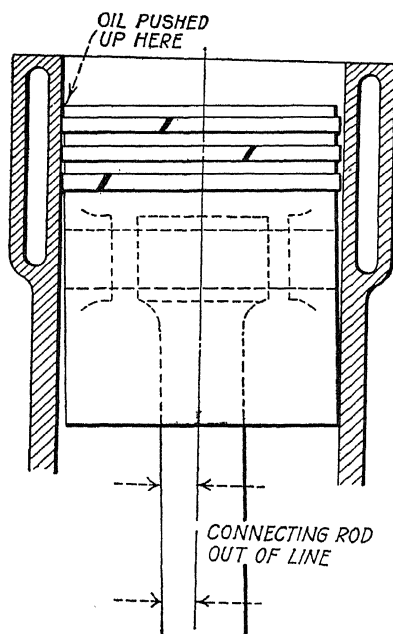

Fig. 46. Connecting Rod Out-of-Line
1. *A cocked piston in the cylinder, Fig. 46, which pushes the oil up into the combustion by the edge of the piston.* The cure is to check the alignment of the connecting rod and straighten it so that the piston will have equal space all around it.